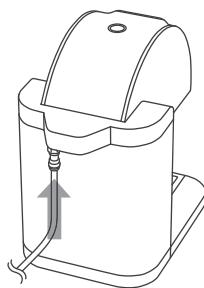

Fig. 2
2. Insert a 1/4" diameter water supply line into the Water Inlet Adaptor on the rear of the water tank. (Fig. 2)